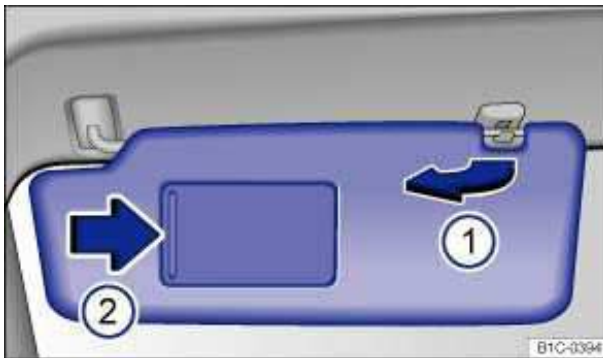

Fig. 69 Sun visor.
- Lift it out of the retaining clip ⇒ fig. 69 \(1\) and swivel it over toward the door.